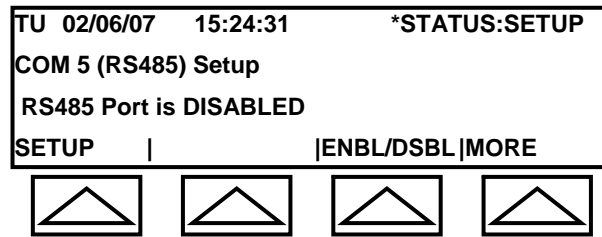

Fig. 4-14q: RS485 Submenu
1. Select RS485 in the Com Submenu (see Figure 4-14q).
The screen will appear as in Figure 4-14q.
- ◆ BACK – returns to Figure 4-14q.
- In the RS485 Submenu (see Figure 4-14q) select ENBL/DSBL to toggle between enable and disable.